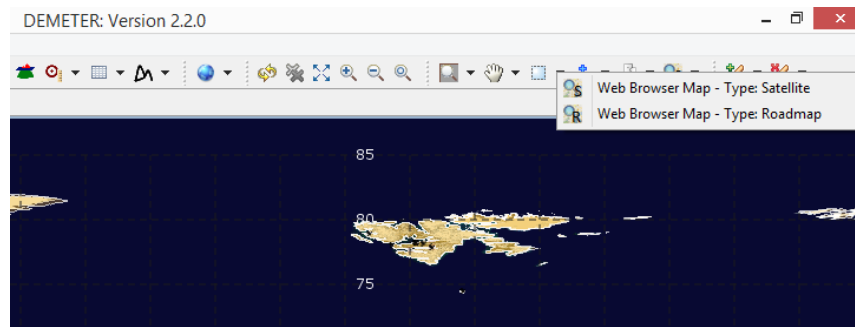

Figure 242: Web Browser Map
1. Click on “Web Browser Map” button (Figure 242).